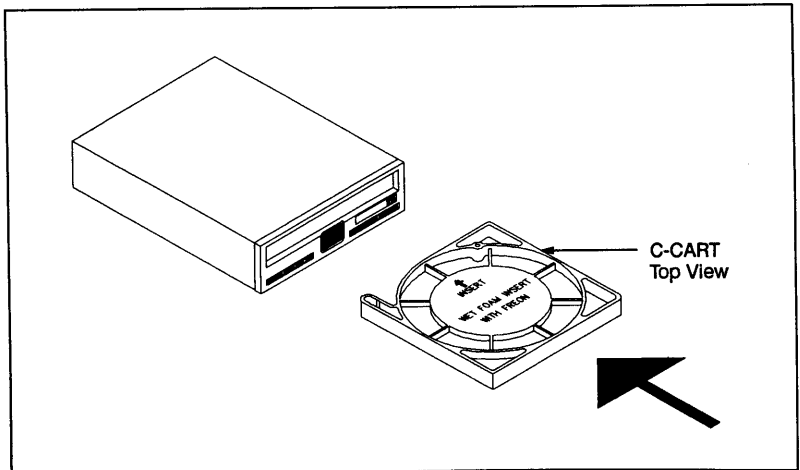

Figure 7-4. C-CART Installation Procedure
3. Insert the C-CART (C-FOAM facing toward the stop button/cartridge load lever) into the drive. See FIGURE 7-4.